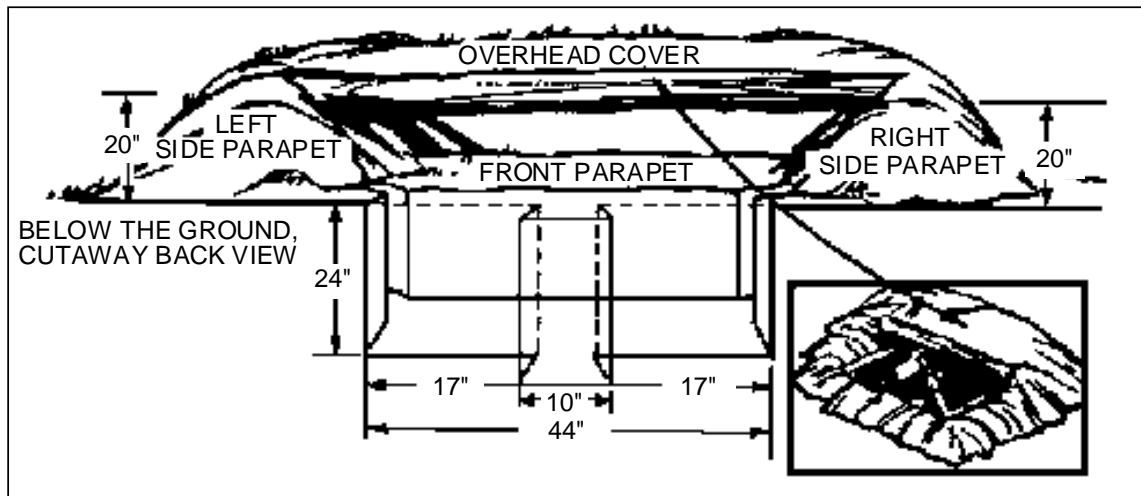

Figure 2. Storage protective area.
e. Dig to the flank (90 degrees to the primary direction of fire) and use the strongest material available for the roof. Put plastic or canvas down before throwing the dirt on the roof to help keep the ceiling from leaking. If you use sandbags, cover them with canvas or plastic. Wet sandbags are heavy and may cave in. Place at least 20 inches of dirt on top of the storage/protective area (Figure 2).